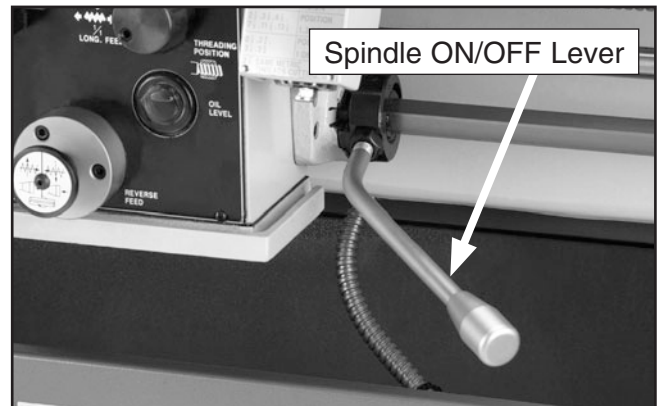

Figure 17. Spindle ON/OFF lever.
11. Move the spindle **ON/OFF** lever to the **OFF** position as shown in **Figure 17**.